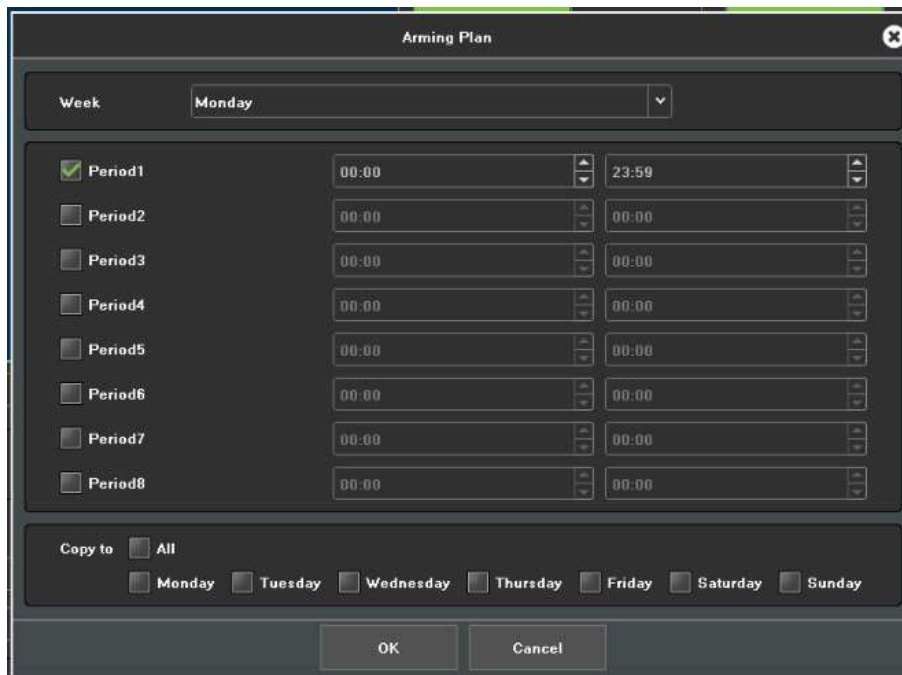

Figure 12.2 Arming Schedule
- **Arming Planning:** Set the arming schedule, as shown in Figure 12.2.